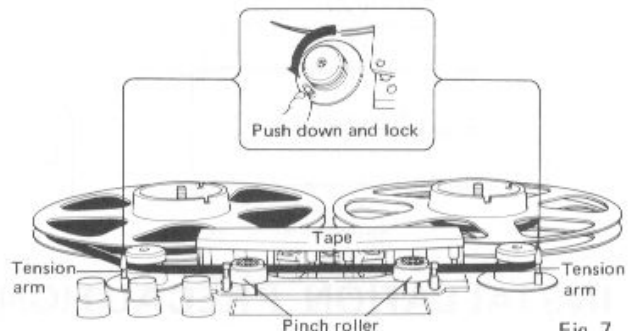

Fig. 7
1. As in Fig. 7, push down the left and right tension arms in the direction of the arrows and lock.